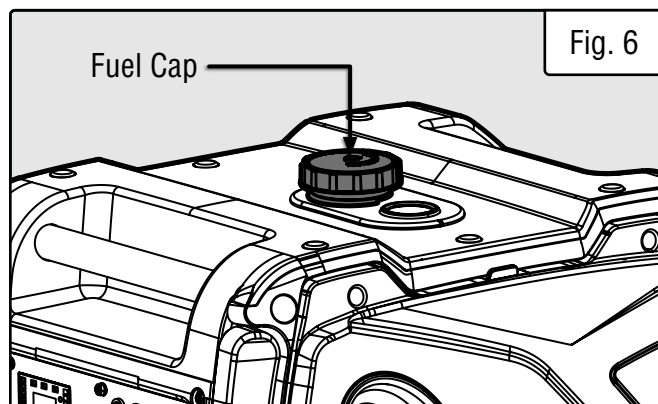

Fig. 6
1. Make sure the generator is shut OFF and on a level surface. Unscrew the fuel cap (Fig. 6) and set it aside. The fuel cap may be tight and hard to unscrew.